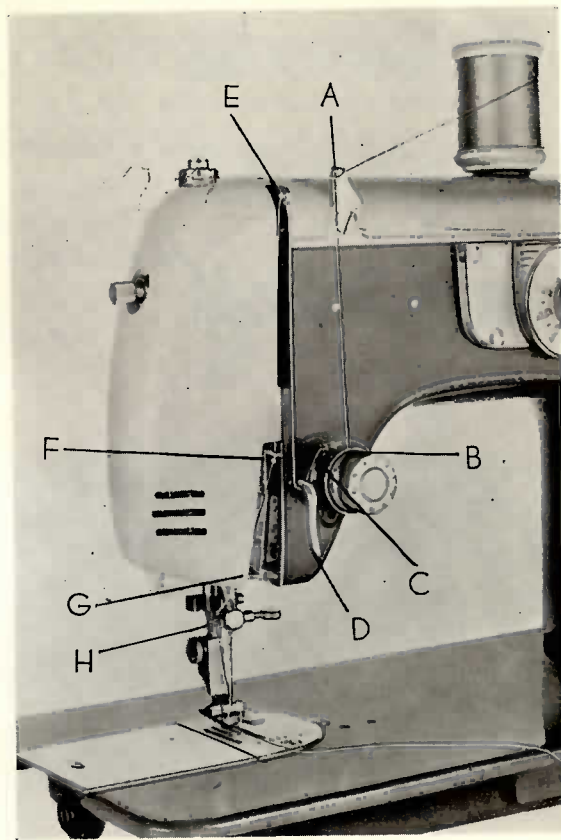

Fig. 12
- 3) Lead the thread through the arm thread-guide (A) (Fig. 12.)
- 4) Run the thread down to the tension disc (B) and between them from right to left and up. Draw the thread up through the check spring (C).
- 5) Then downward again around the underside of the thread retaining bar (D) and up through the eyelet of the thread take up lever (E) from right to left
- 6) Now run the thread down through both thread guides (F) (G), of the thread protector and then through the loop of the needle bar threadguide (H) from the back.